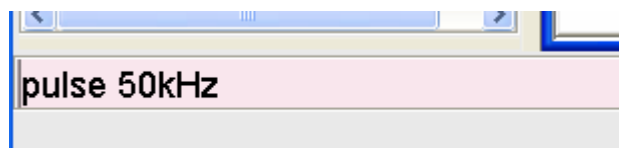

Figure 2.14 Calling the program *pulse* from the command line without any parameter
4. Check for correct routing on the 1 kW amplifiers. If the routing is incorrect, click the **default** button in the routing window (see Figure 2.14).